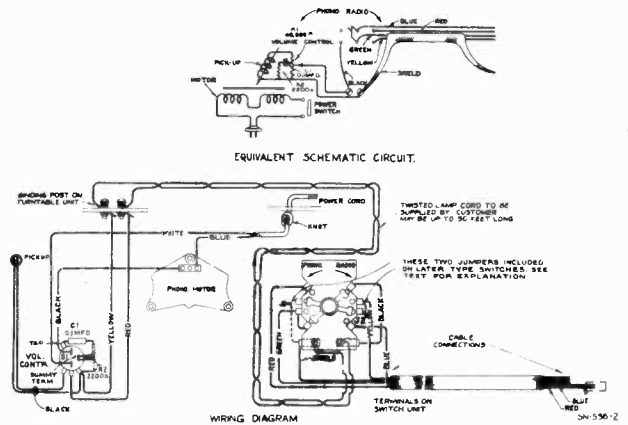

Figure 3—Wiring Diagram and Equivalent Schematic Circuit
2. (Record Player Switch Jumpers) — Some record player switches do not have jumpers J1 and J2 (see figure 3) attached. When the switch is so connected and turned to phonograph position, the voltage developed by the pickup is fed into the radio receiver through the green wire and shield, and at the same time the yellow wire is connected to shield. The jumpers J1 and J2 permit the yellow lead to kill radio by connection to shield. The jumpers should be removed where the yellow lead connects in such a position as to short bias batteries, etc. Check the switch to be used for the method chosen and use the jumpers accordingly. Correct jumper connections are indicated in "RCA Victor Receivers—Details of Lead Connections" of this booklet.
The cabinet of the Model R-93-A is similar to that of the Model R-93 Walnut finish. This model incorporates an acoustic compensated volume control, see figure 3. Model R-93-A (first production) and Model R-93-A (second production) differ only in the pickup construction, the essential difference being in the armature centering spring and spring clamps. Reference to pickup details, figures 1 and 2 will reveal the fact that the armature centering spring is respectively "V" and "T" shaped for the Model R-93-A (first and second productions). Refer to "Model R-93 (third production)" and figures 1 and 2 for pickup adjustments.
The Model R-94 Deluxe cabinet is finished in walnut and has a hinged lid which may be closed while playing the records. This model incorporates an acoustic compensated volume control, see figure 3. An improved type of pickup is used, the construction of which is illustrated in figure 2. Refer to "Model R-93 (third production)" and figure 2 for pickup adjustments.